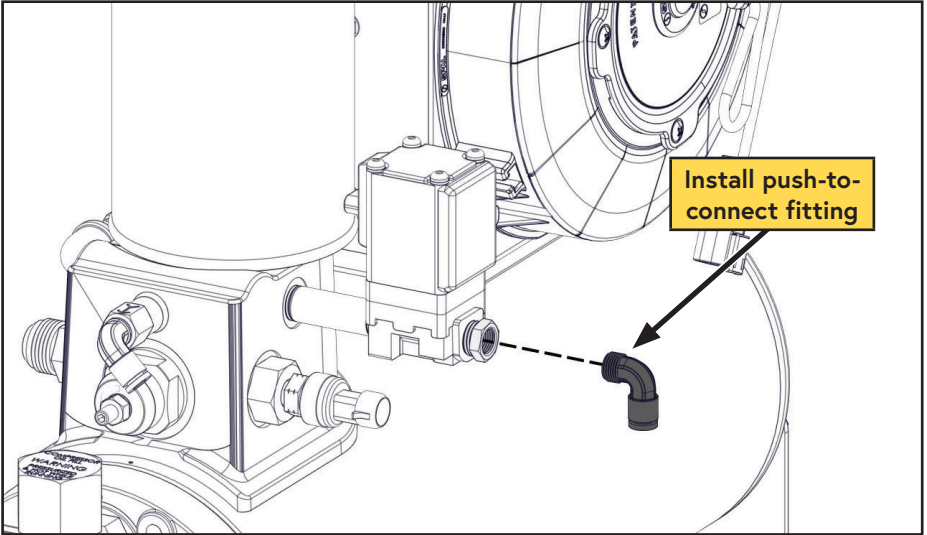

Figure 35 — Install push-to-connect fitting
- Apply Loctite 567 (thread sealing) compound to the 1/4 in push-to-connect fitting and install it into the fitting on the blowdown solenoid (Figure 35).